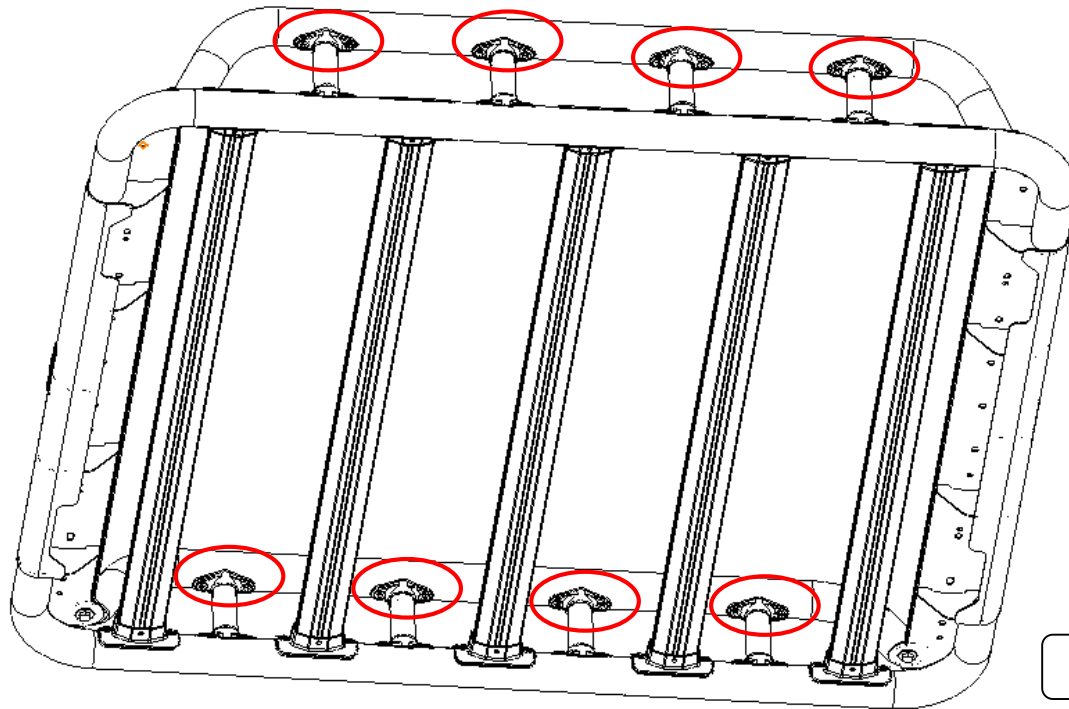

FIGURE 4
- **Step-5** Align the holes in each stand-off with the rivet-nuts in the top rails and secure each stand-off to the top rail using (2) 1/4" x 1" SEMS bolts, (Fig 4 & 4a).